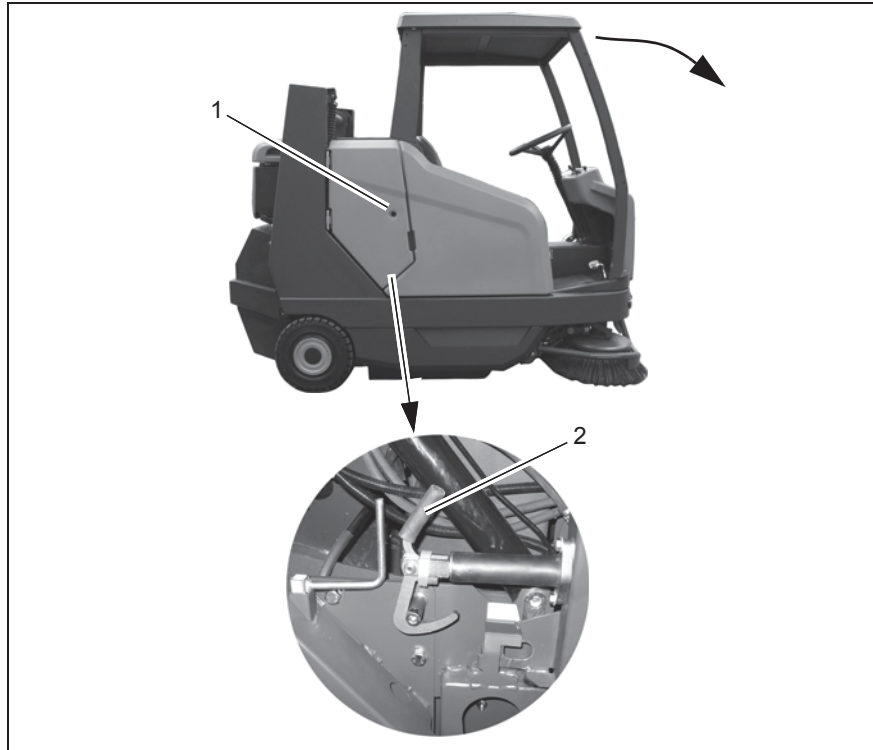

Fig.6
1. Open the side door (Fig. 6/1) with a square wrench and unlock the cab safety roof using the locking hook (Fig. 6/2).